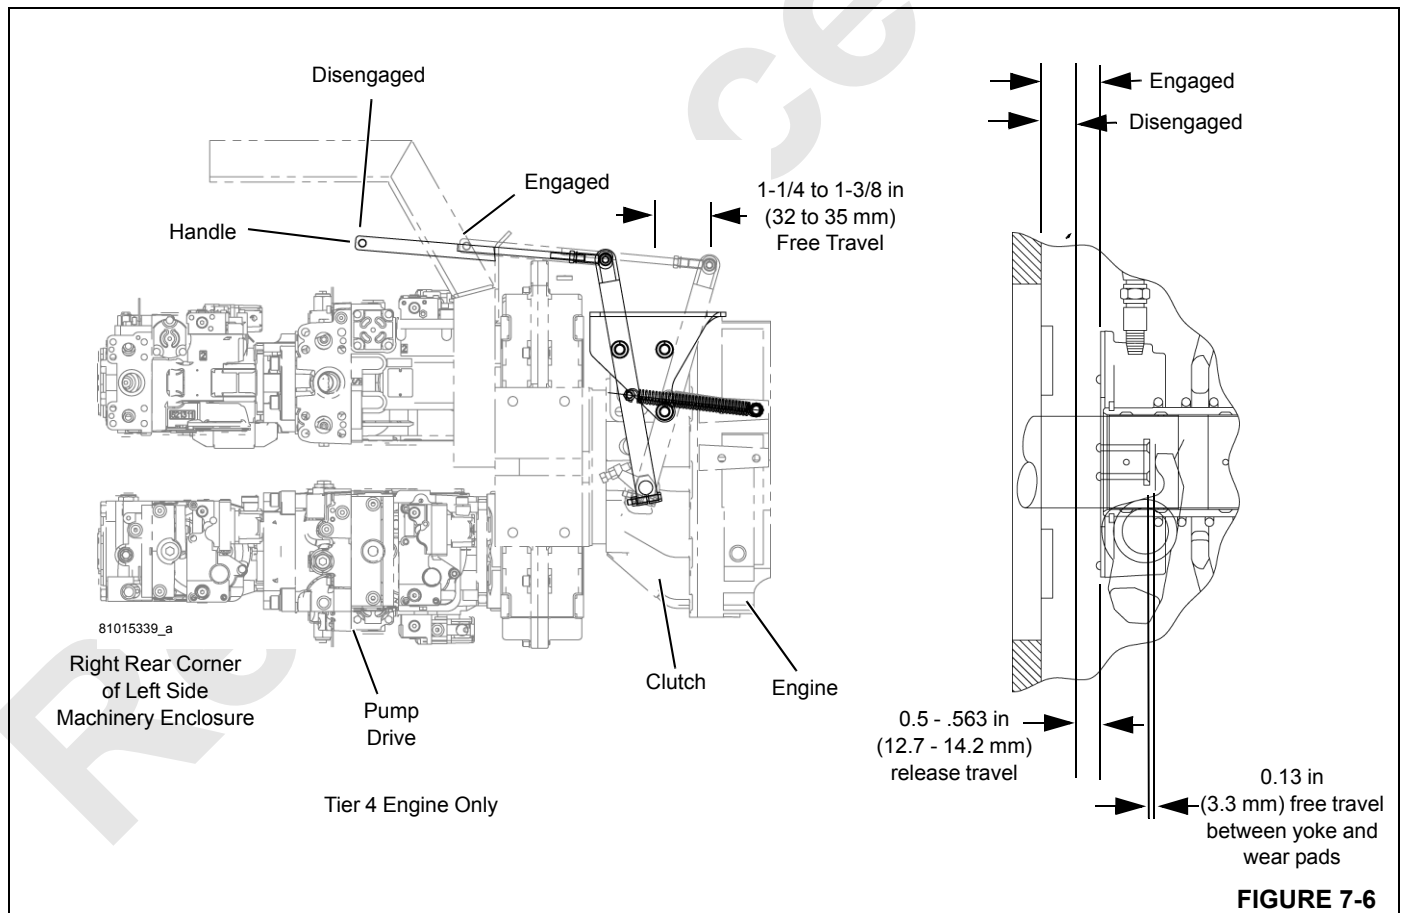

FIGURE 7-6
A disc-type manually operated clutch (see Figure 7-6) is mounted between the engine and the pump drive. The clutch allows the pump drive to be disconnected from the engine, thereby reducing engine load and making start-up easier in cold weather. The clutch can be engaged or disengaged while the engine is running or off.
- When disengaging the clutch, check free travel. Free travel should be 1-1/4 to 1-3/8 in (32 – 35 mm) as shown in Figure 7-6. Readjust the clutch when free travel decreases to 3/4 in (19 mm).